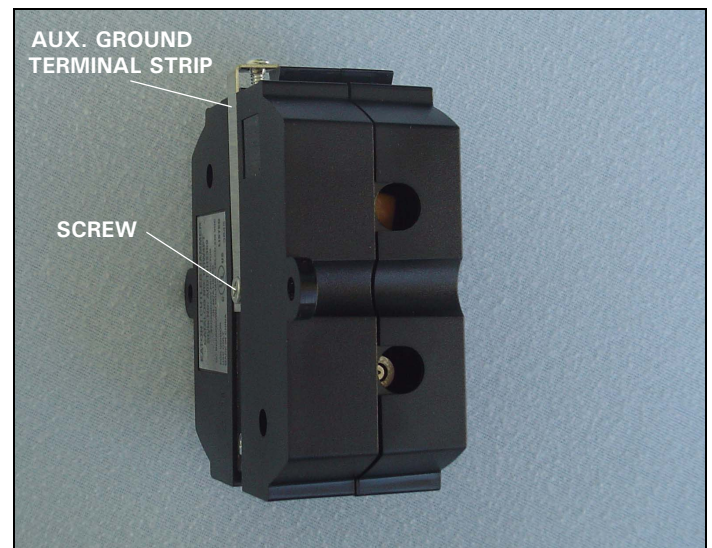

Figure 76. Auxiliary Ground Strip Mounted to the SurgeTel.
Step 1: Remove the screw in the middle of the back of the new SurgeTel using a Phillips head screwdriver. Attach the auxiliary ground terminal strip provided to the back of the SurgeTel using the Phillips head screw just removed (see Figure 76).